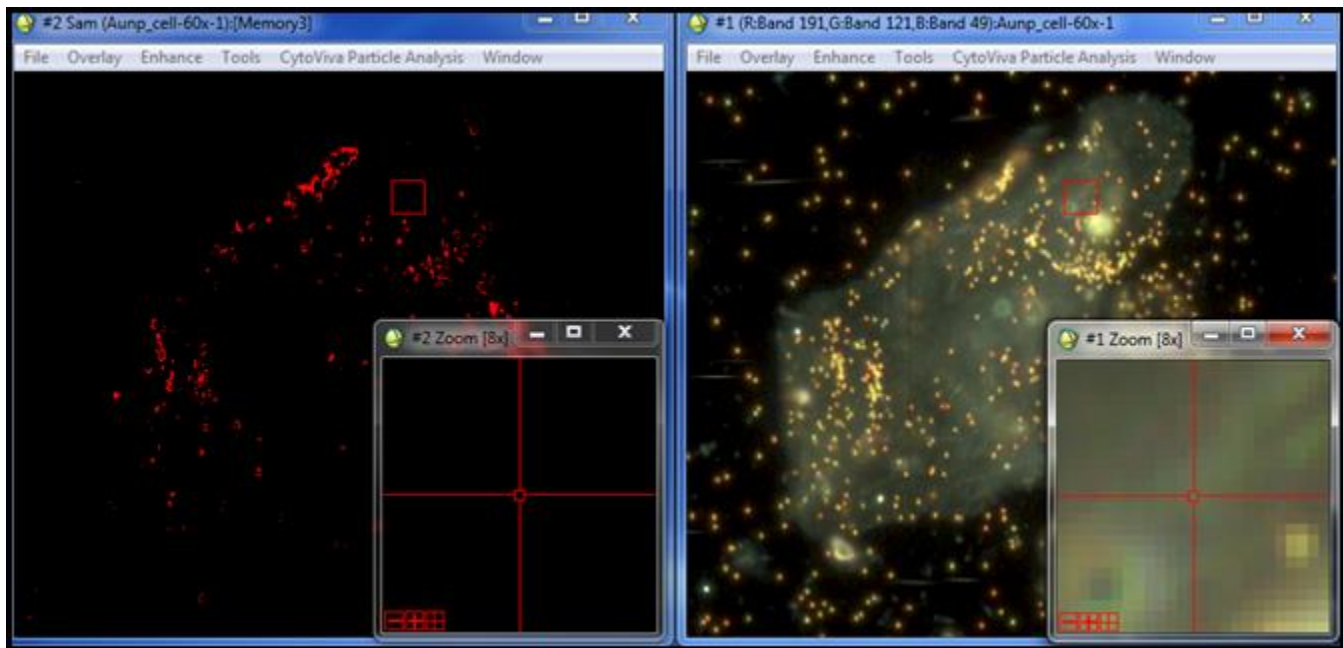

Figure 5.6a. Linking the two displays
- If you left click and hold in any window it will display what is in the opposite window (Figure 5.6a).